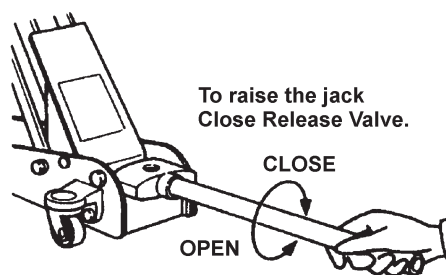

Fig.3 To lower the jack
- 5.1.4 Turn the release valve clockwise, to the closed position (Fig.3). **DO NOT** over-tighten.